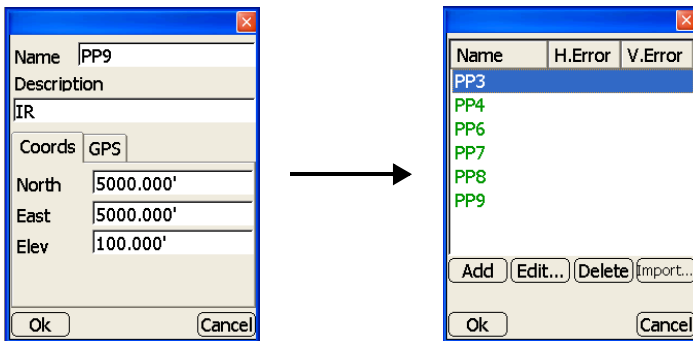

Figure 2-6. Add Control Points
10. On the **add control point information** dialog box, enter a name, description (if desired), and Northing/Easting coordinates for the Control Point (Figure 2-6 on page 2-5).
12. When finished entering available Control Points (Figure 2-6), press **Ok** to save the Control Point file and return to the main screen.